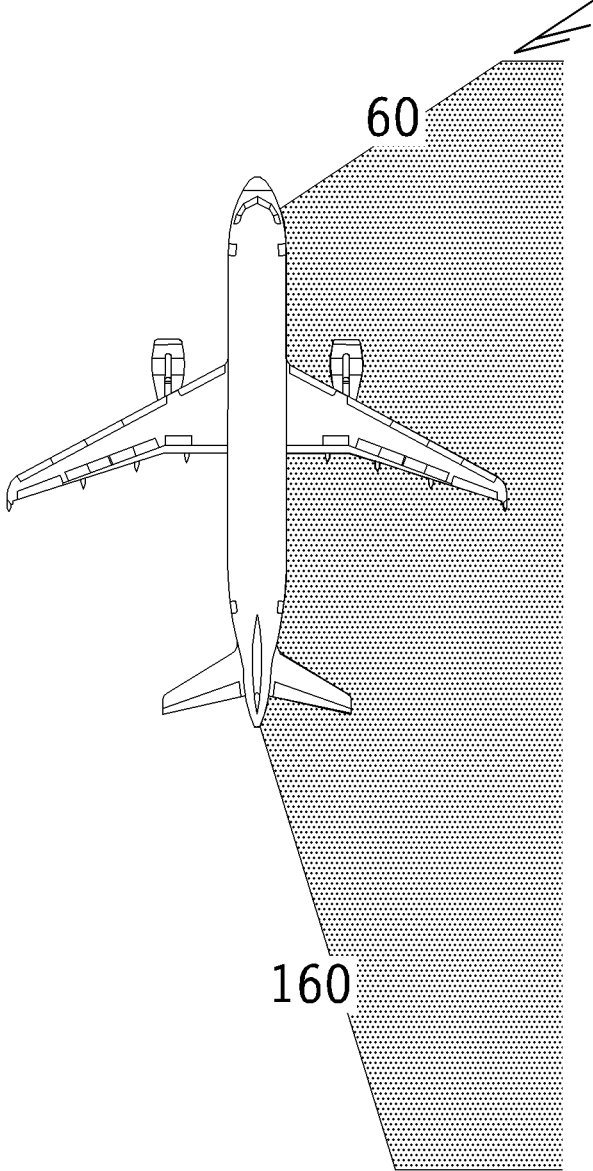

Figure 3. Critical crosswind range for the leeward engine
- The schematic in Figure 3 shows the range of wind direction within which the phenomenon can occur, according to our experience, if the windward engine is, for instance, engine 2.